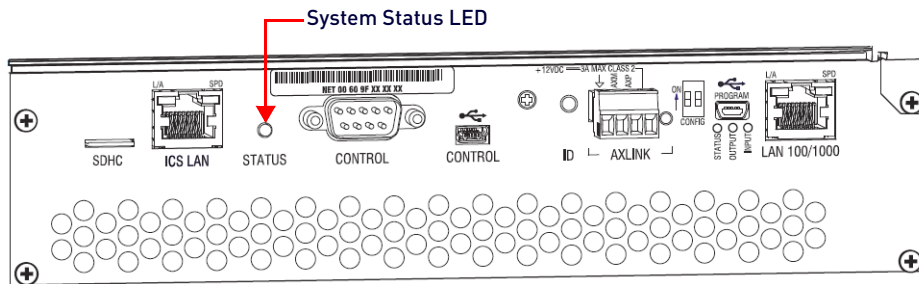

FIG. 136 System Status LED
14. Check the Status LED on the CPU for indications of normal display (FIG. 136):